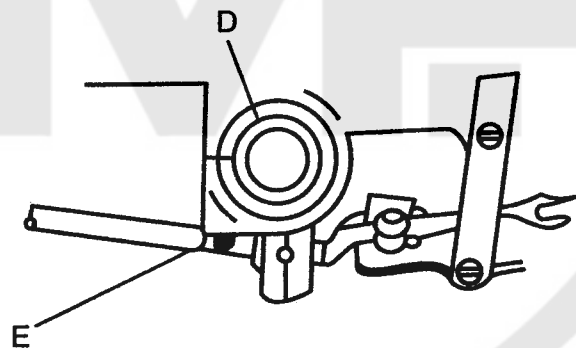

Fig.20
d) When the looper is at the looper groove of the presser foot, adjust looper ball joint adjusting sleeve (Fig20-D) so that the needle passes between the prongs of looper.